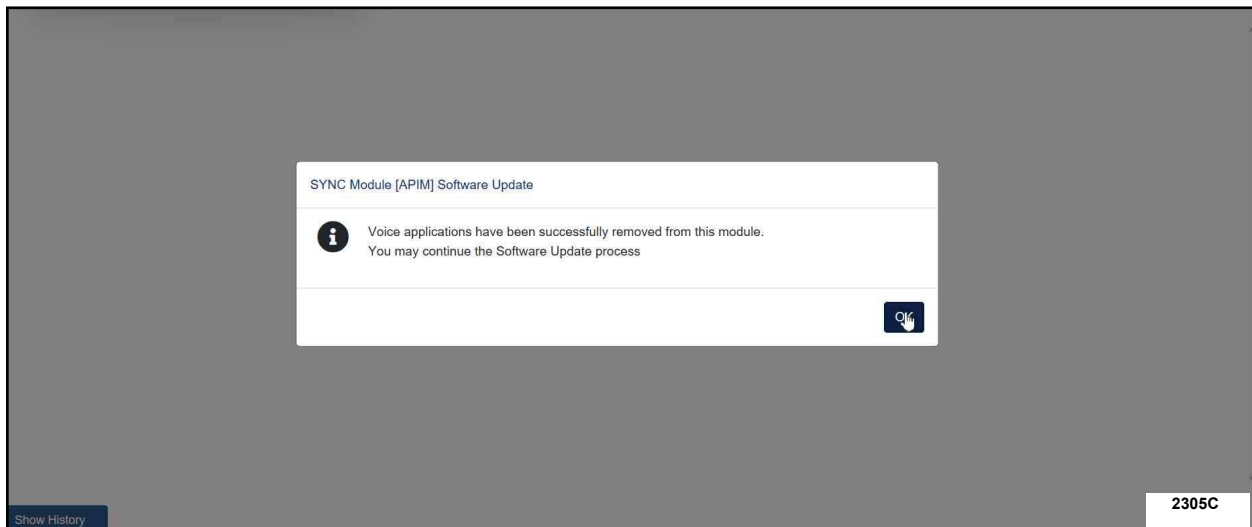

FIGURE 3
21. Continue to follow all on-screen instructions carefully until the voice application has been successfully removed. See Figure 3. (app deleted)